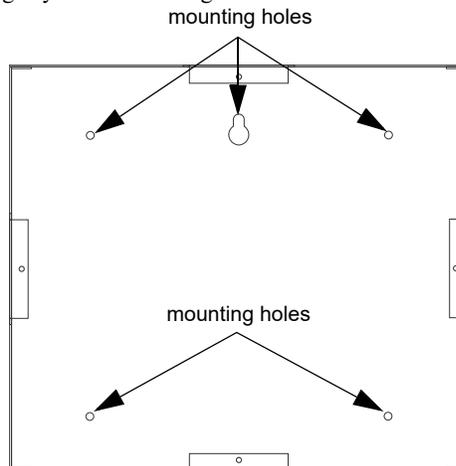

Figure 4.22 6860 Backbox Mounting
- Mark and pre-drill hole in the wall for the center top keyhole mounting bolt. Refer to Figure 4.22 for mounting hole locations.